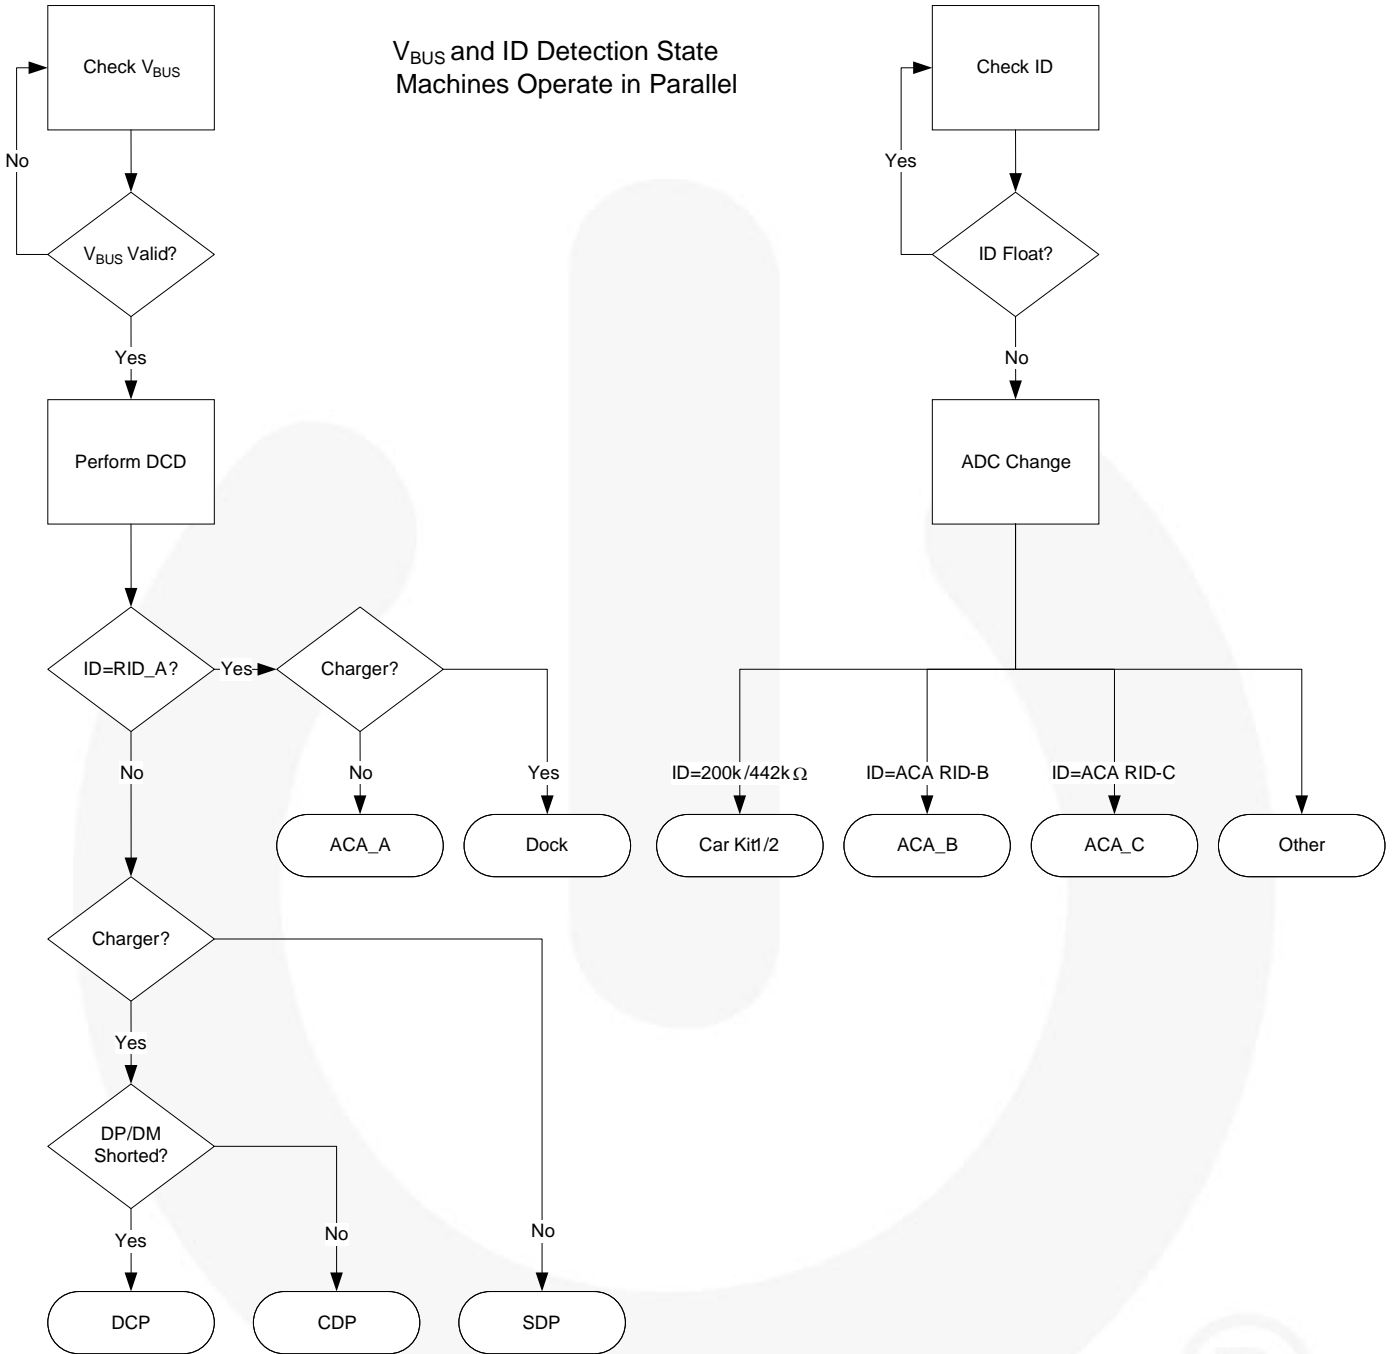

Figure 6. Accessory Discovery State Machine Flow Diagram
The USB detection flow is show in Figure 6. Note that the INTB Mask bit in the Control register must be cleared after a reset or
- Figure 6 illustrates operation with a valid V_{DDIO} supply voltage. Figure 6 does not illustrate Dead Battery Provision (DBP) See Section 9 for details.